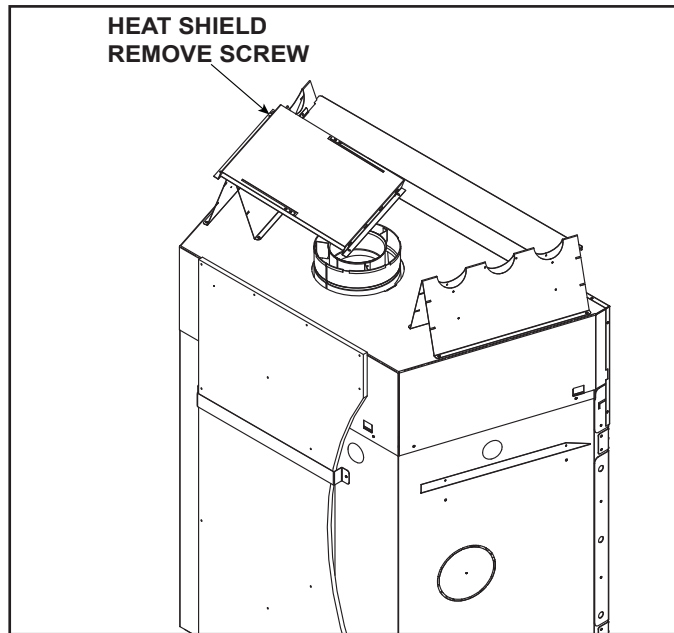

Figure 7.3 Remove Heat Shield
1. Remove the screw that secures the heat shield to the top standoff. See Figure 7.3.